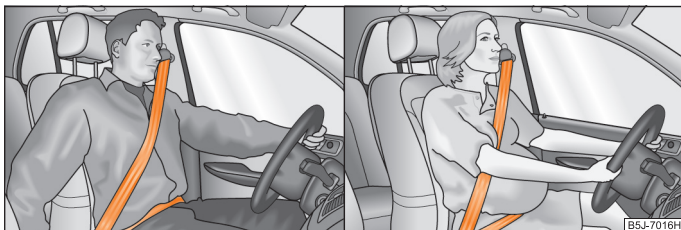

Fig. 111 Routing of belt webbing over the shoulders and the lap belt / Routing of belt webbing for an expectant mother
chest. The lap part of the belt must run across the hip and must never be routed across the stomach. It must always fit snugly ⇒ fig. 111 – left. Adjust the belt webbing as required.
- The lap part of the belt should be positioned as low as possible at the pelvis of an expectant mother in order to avoid exerting any pressure on the lower abdomen ⇒ fig. 111 – right.